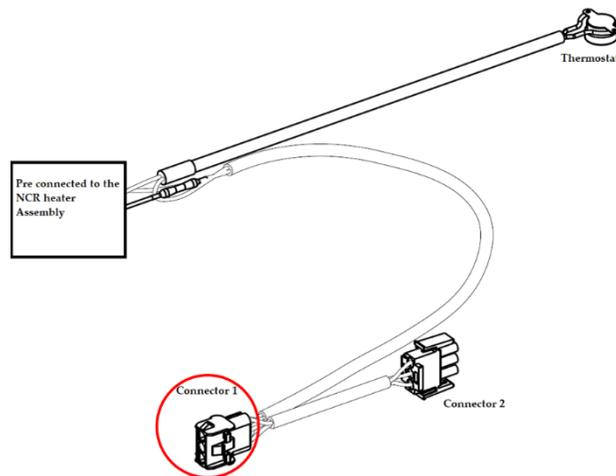
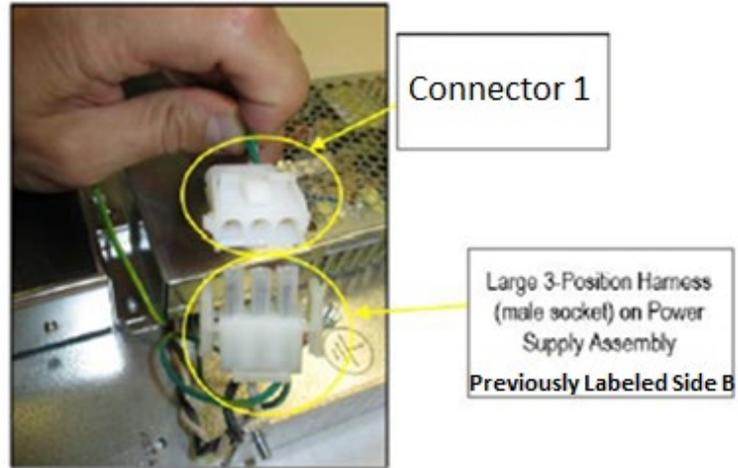

Figure 80
Figure 81
32) Attach Connector 1 (identified in Figure 80) to the NON-Invenco Link OPTIC power supply cable (previously marked as SIDE B in step 18)) as shown in Figure 81.